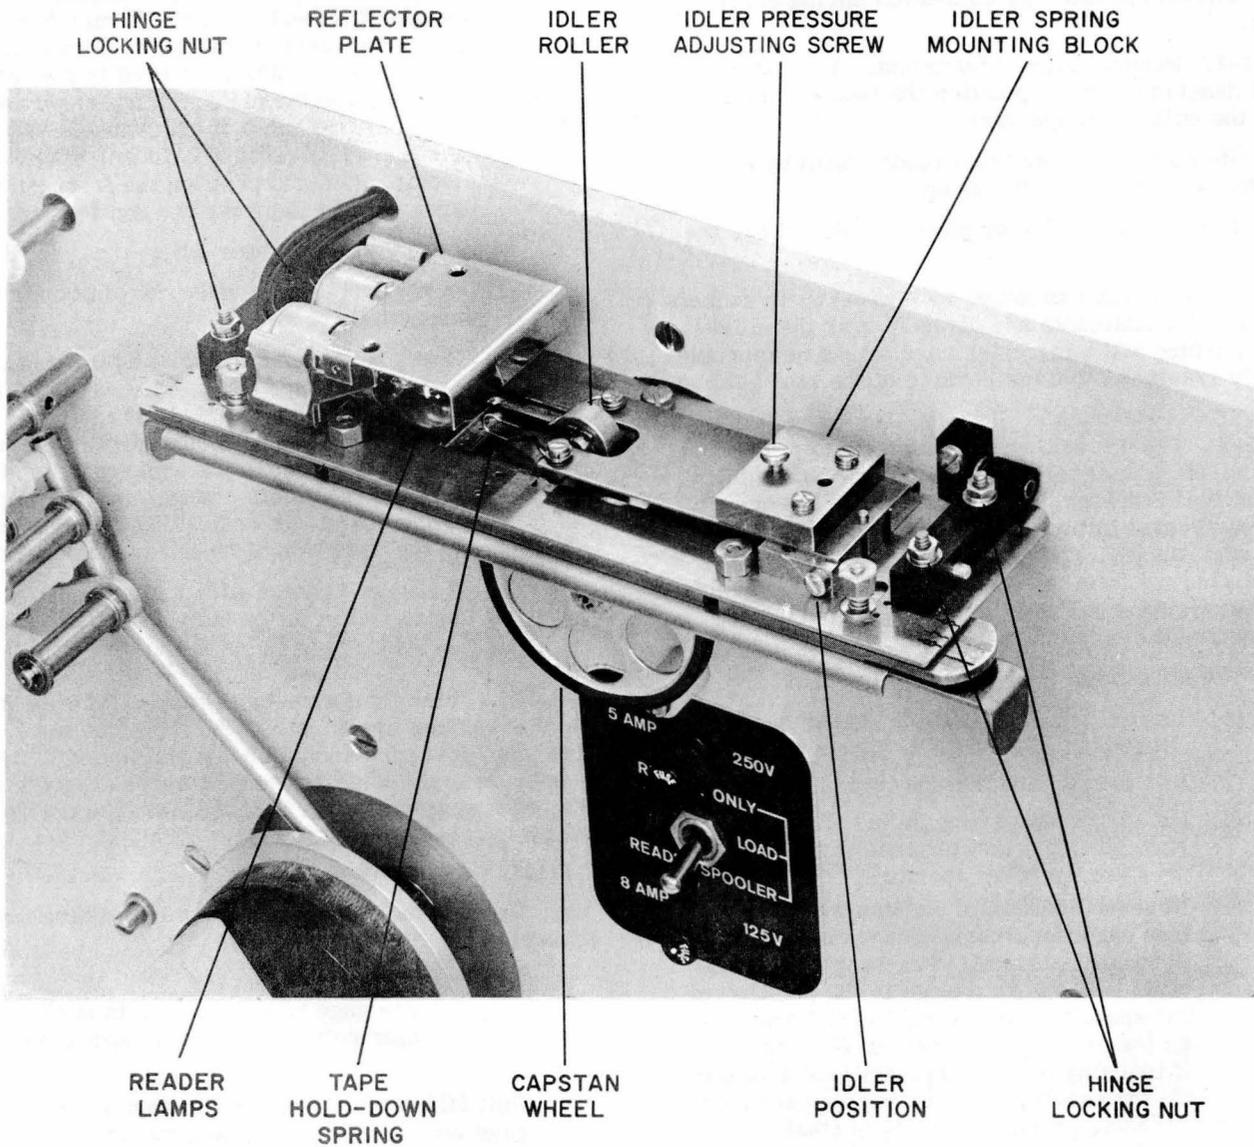

Figure 5-7. Read Head, Covers Removed
5-5-1. HEAD ADJUSTMENTS. (See figure 5-7). The head adjustments should be performed whenever a component of the head assembly is replaced or whenever trouble isolation indicates that the head assembly may be misadjusted. The head adjustments consist of positioning the reader lamps, idler position adjustment for proper tape tracking, idler pressure adjustment and tape hold-down spring adjustment.
- (2) Remove top and bottom covers from reader.
- (3) Rotate capstan wheel in one direction. Note how sprocket channel on tape passes over the sprocket aperture.
- (4) Reverse rotation of capstan wheel and note how sprocket channel passes over the sprocket aperture. Tracking is correct when there is no change in the position of the sprocket with respect to the aperture as the direction of tape travel is changed. If tracking is incorrect continue with step (5) through (9). If tracking appears to be correct, proceed directly to final adjustment, paragraph b.
- (5) Loosen the two Number 4-40 screws on top of the idler spring mounting block (figure 5-7).
- (6) The idler wheel adjusting screw is used to position the idler wheel for proper guiding. Clockwise rotation of this screw moves the idler wheel towards the front panel; while conversely, counterclockwise rotation of the screw moves the idler wheel away from the front panel.
d. If adjustment is required, adjust idler pressure adjusting screw, figure 5-7.